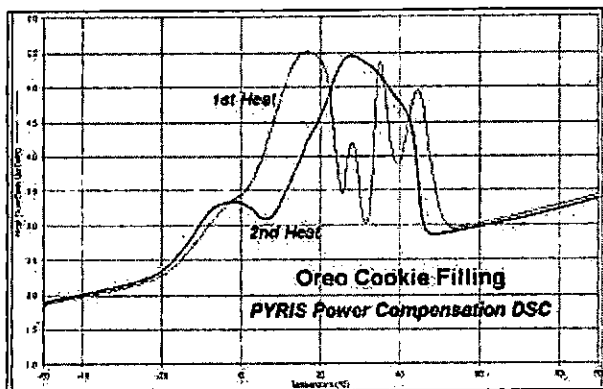

Figure 2: Comparison of first and second DSC heats for filling.
The regular Oreo cookie filling was cooled back to -60 °C and then reheated at 20 °C/min and the results of the reheat experiment are displayed in Figure 2. The filling now exhibits a very different thermal response and this reflects the differences due to thermal history. Melting, cooling and reheating produces a new morphology or structure in the fat. DSC is a valuable technique for studying the effects of thermal history on fats and their polymorphic forms.
As shown in Figure 2, protonation is accompanied by a 9 to 10 order of magnitude increase in conductivity reaching saturation in *ca.* 1 M aqueous HCl.
**Figure 2.** Conductivity of emeraldine base as a function of the pH of the HCl dopant solution as it undergoes protonic acid doping (● and ■ represent two independent series of experiments) see refs 14 and 15.